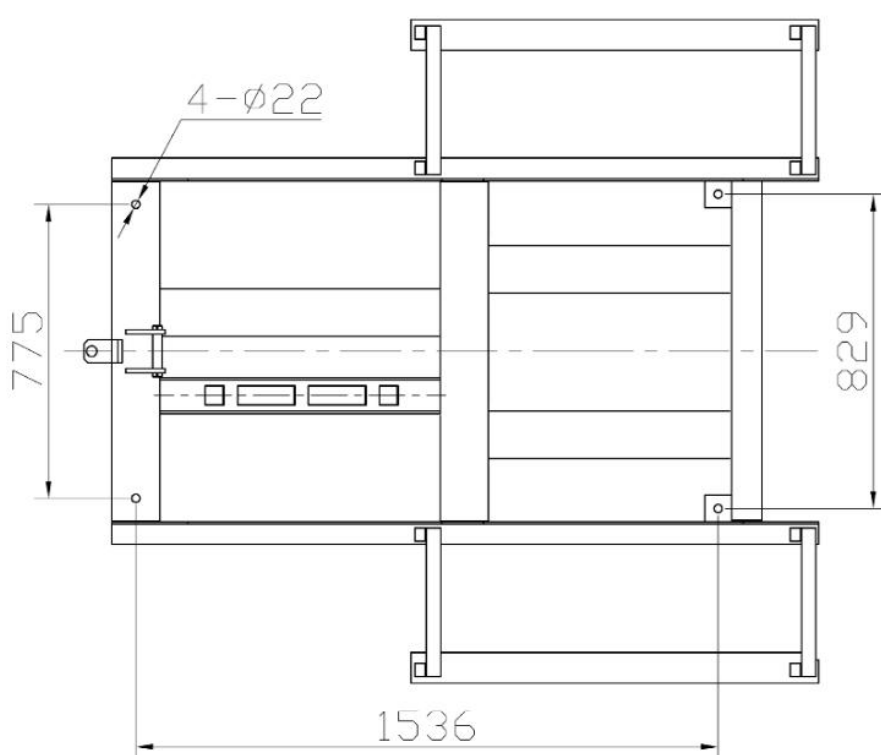

Fig.19
1. There are four fixed holes in the machine, can fix the machine on ground by 3/4 X 5 1/2" anchor bolts (**See Fig.19**).